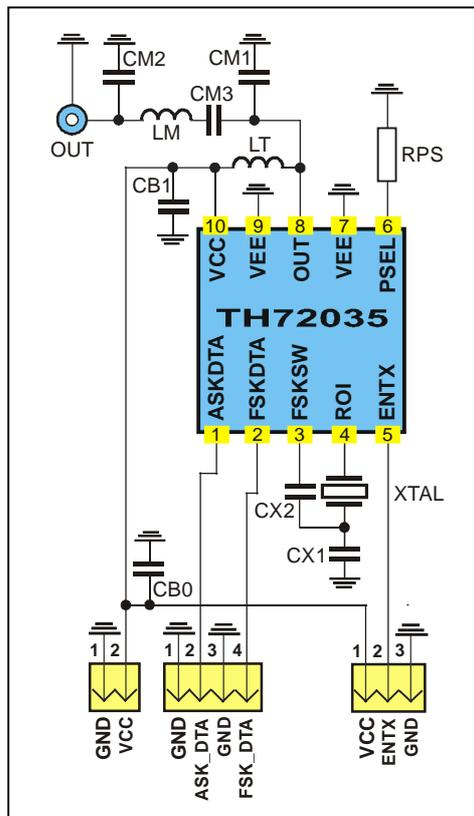

Fig. 18: Test circuit for FSK with 50 Ω matching network
typical values at $T_A = 23\text{ °C}$ and $V_{CC} = 3\text{ V}$; test circuit shown in Fig. 18, $f_c = 315\text{ MHz}$
- Data according to test circuit in Fig. 18 (868.3MHz)
6.1 Test circuit component list to Fig. 18